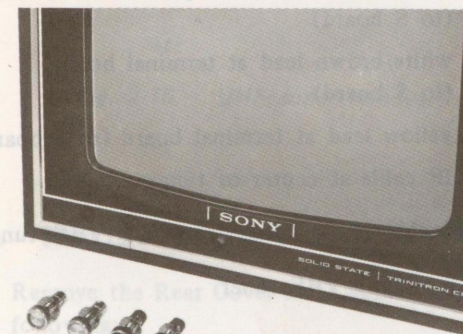

Fig. 2-7. Front-panel control removal
2. Pull off four front-panel knobs as shown in Fig. 2-7.